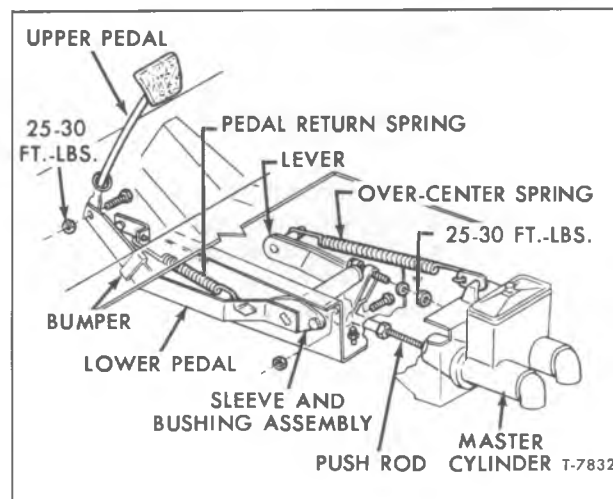

Figure 12—Clutch Pedal and Linkage ("TE" and "TS" Models)
The master cylinder on Steel Tilt Models is bracket-mounted below cab flooring as shown in figure 12. Access to pedal linkage for checking and adjusting purposes is made when cab is tilted completely forward. However, when checking and replenishing fluid in master cylinder, the cab must be in its lowered or operating position.
(Refer to Figure 12)
REMOVAL (Refer to Figs. 12 and 13)
#### INSTALLATION (Refer to Figs. 12 and 13)
3. Slide the lower pedal and shaft assembly through the sleeve, through the spacer, and into the partly serrated hole of the pedal shaft lever. Make sure pedal shaft lever is positioned as shown in figure 12.
**IMPORTANT:** Be sure bolt is inserted in direction shown in figure 12. Tighten nut to 25-30 foot-pounds torque.